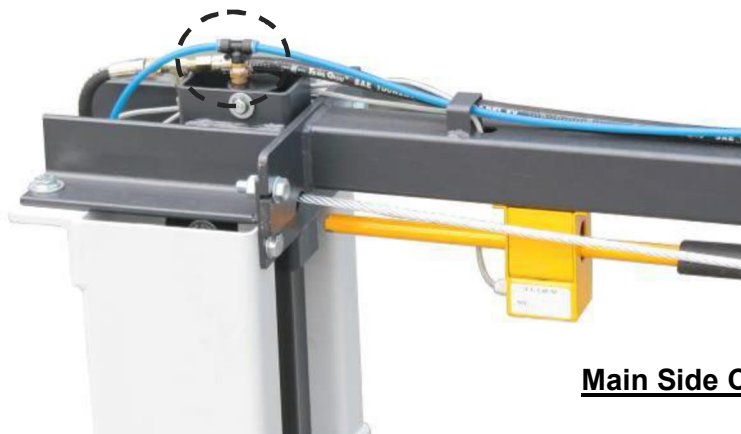

Fig. 9a
1. First screw on the hose fitting connectors on the cylinders lower end ports. (Fig. 9a)